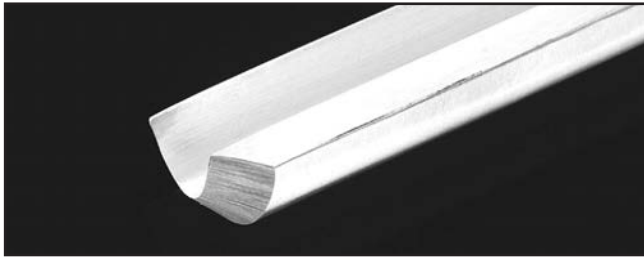

Figure 28. Gouge.
- **Gouges**—Mainly used for rough cutting, detail cutting, and cove profiles. The rough gouge is a hollow, double-ground tool with a round nose, and the detail gouge is a hollow, double-ground tool with either a round or pointed nose. **Figure 28** shows an example of a gouge.